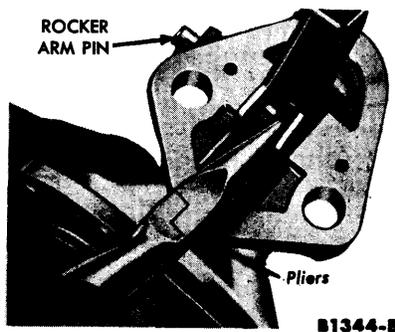

FIG. 2—Rocker Arm Pin Removal or Installation
6. Press the fuel pump diaphragm into the fuel pump body to release the tension on the rocker arm and allow the rocker arm pin to fall out. If the pin does not come out freely, use needle nose pliers (Fig. 2).
2. Align the rocker arm pin holes by applying slight pressure on the diaphragm spring, then install the rocker arm pin (Fig. 2).